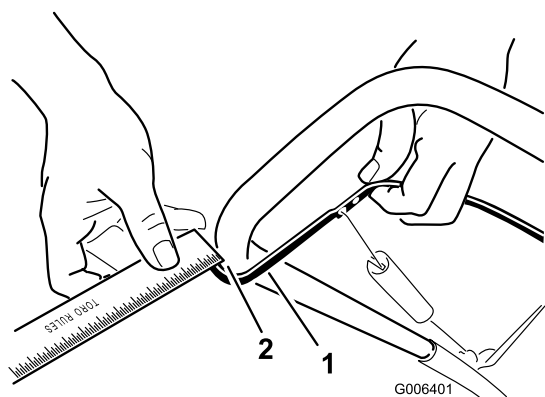

Figure 25
Move the control bar back toward the handle to remove the slack in the control cable (Figure 25).
Note: Ensure that a 1/16-inch to 1/8-inch (2 mm to 3 mm) gap exists between the control bar and the handle (Figure 25).
2. Move the Z-fitting to a higher or lower hole on the adjuster link as needed to obtain the 1/16-inch to 1/8-inch (2 mm to 3 mm) gap between the control bar and the handle (Figure 25).